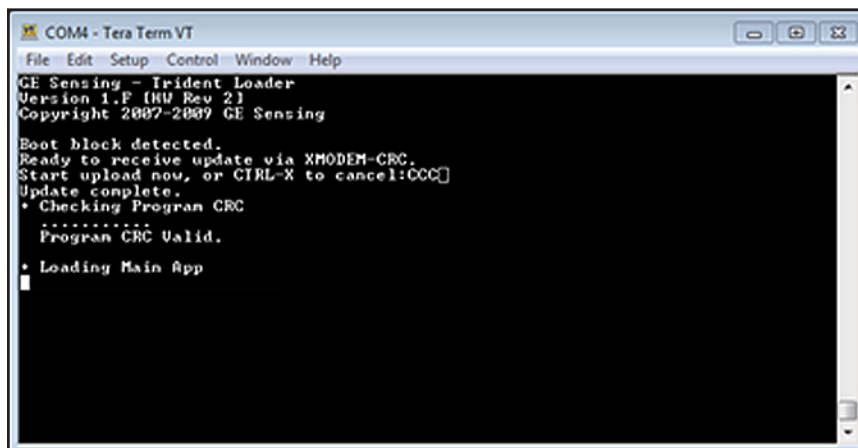

Figure 10: Update Complete Message in Tera Term
7. After the file transfer is complete, the *Tera Term* terminal window will appear as in *Figure 10* below, and the meter will start up.